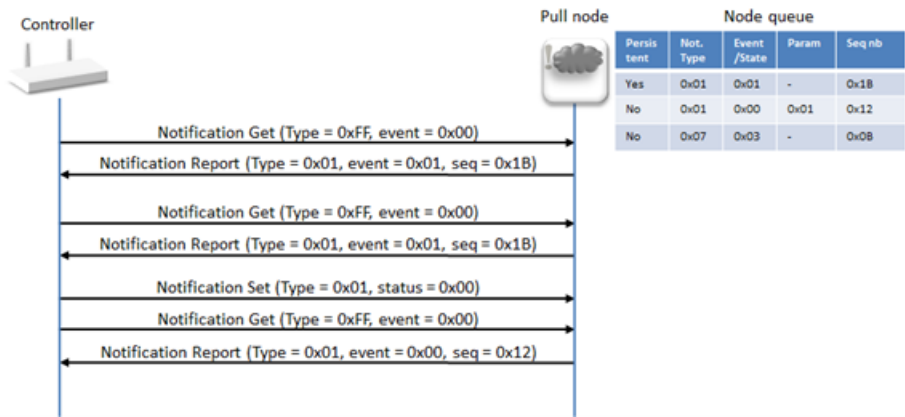

Figure 6.17: Detecting and Clearing Persistent Notifications, identical sequence numbers
- A controlling node receiving twice the same Notification with identical sequence number SHOULD consider the Notification as persistent. An example is given in Figure 6.17.